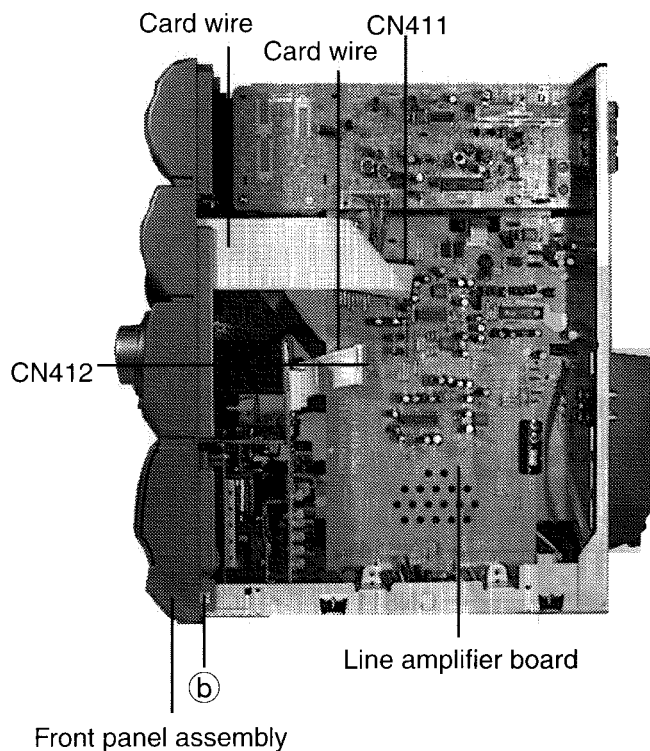

Fig. 7
4. Disconnect the card wires connected to the front panel assembly from connectors CN411 and CN412 on the line amplifier board. (See Fig. 7)